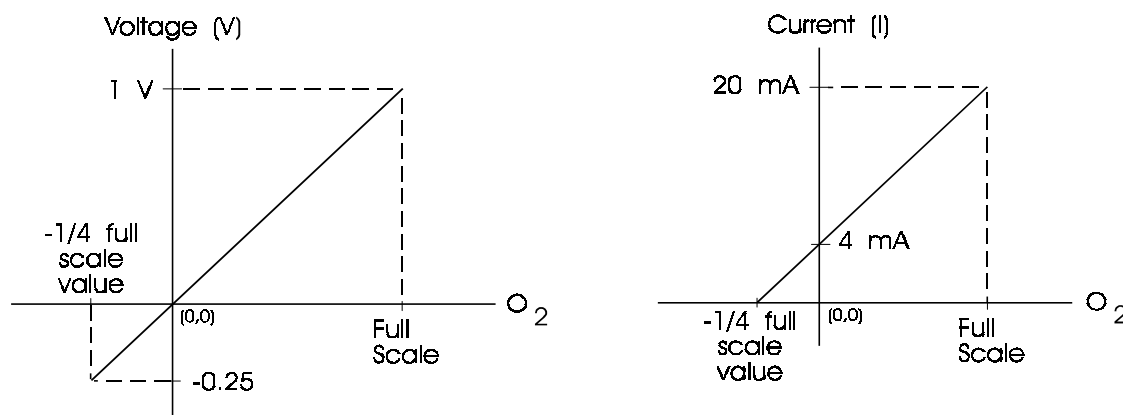

Figure 2-3: Analog signal output offset
- **0–1V Signal (Oxygen Measurement):** This output goes from 0 to 1, representing 0 to 100% of the scale that has been set; i.e., 0.6 volt is equal to 60% of the full scale, or 6 PPM when on the 10 PPM scale. It is possible that the signal may go past zero into the negative range up to -0.25, especially if the analyzer has been zeroed with a gas that contains a significant concentration of oxygen. See Figure 2-3.
- **Isolated 4–20 mA Signal (Oxygen Measurement):** This is a 4 to 20 mA output representing 0 to 100% of the scale, with 4 mA equal to 0%, and 20 mA equal to 100% of that range. This output may also range lower than 4 mA, especially if the analyzer has been zeroed with a gas that contains a significant concentration of oxygen. See Figure 2-3.